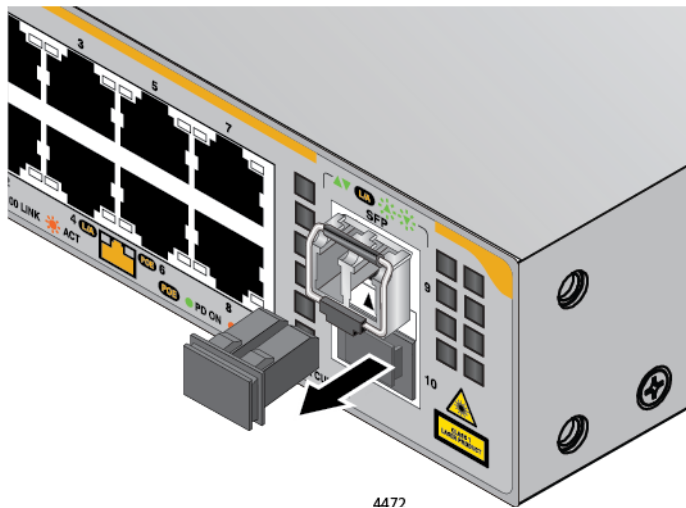

Figure 23. Remove SFP Transceiver Dust Cover
5. Remove the dust cover from the SFP transceiver. Refer to Figure 23